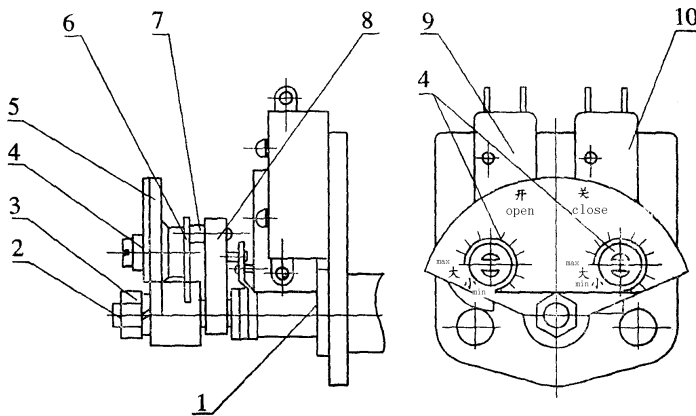

图6 转矩控制机构 Fig.6 torque mechanism
转矩控制机构见图6, 本装置在出厂前, 启闭方向的转矩值均整定在额定控制点上, 一般不需要再作调整, 若现场需重新调整, 方法如下:
Torque limit is shown in Fig.6. Torque limit of this device has been preset according to rated torque value before leaving factory and does not need resetting usually. If field resetting is required, it will be carried out as following:
- 12.2 图 6 中的扇形板上的“开”和“关”位置颠倒，序 9 应为开向微动开关，序 10 应为关向微动开关。
- 12.2 In Fig.6, “Open” and “Close” on sector plate shall be exchanged. No.9 shall be changed into microswitch for opening and No.10 shall be changed into microswitch for closing.